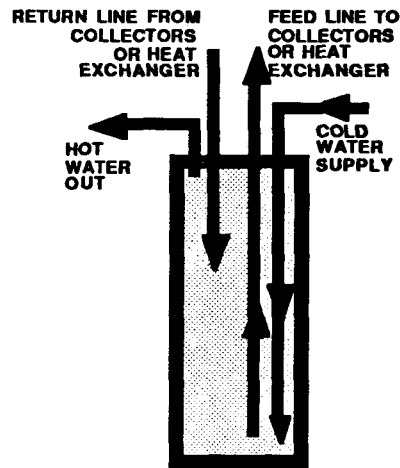

FIGURE 4-9
**4.3.12 Storage Tanks.** Problems with storage tanks may actually be caused by piping errors. One of the most common is mixing up inlets and outlets. Another problem is the length of dip tubes. If they are too short or too long, the tank may not be able to store or deliver its full heat capacity. (Figure 4-9)